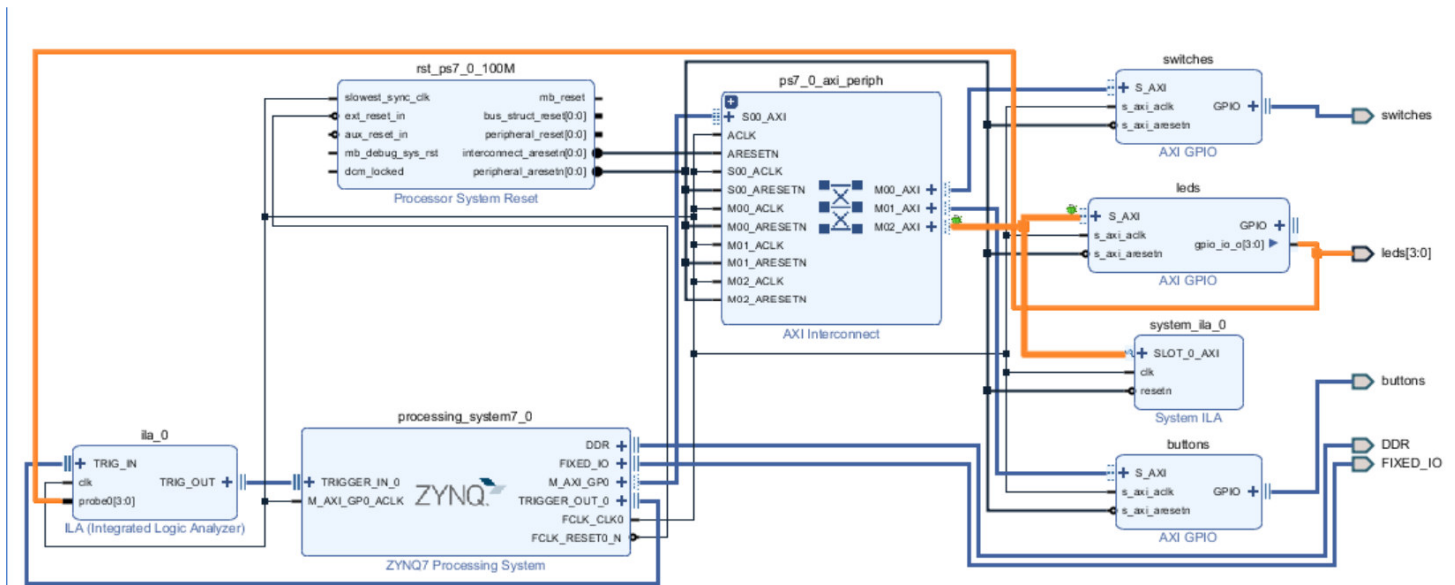

Figure 5: Finalized version of Block design
15. Select **Tools** → **Validate Design** to run the design rules checker. Verify that there are no errors or critical warnings. Your final design should look similar to Figure 5.